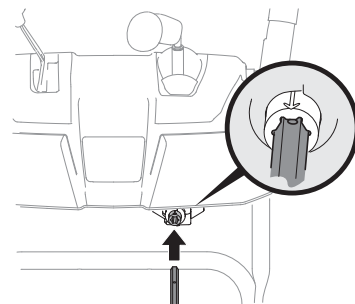

Figure 2-32
6. Insert chute control rod into pinion gear below joystick. Make sure to line up hole in rod with arrow on pinion gear. See Figure 2-32.